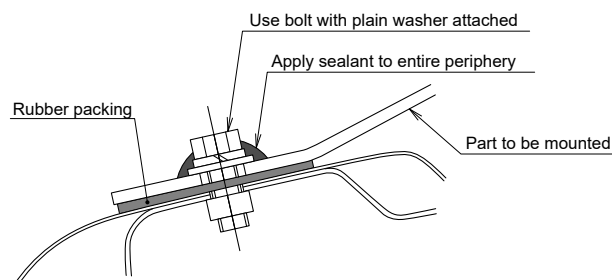

Fig.4
- The top coat of paint must be applied to externally mounted parts before attaching to the roof. (See Fig. 4.)